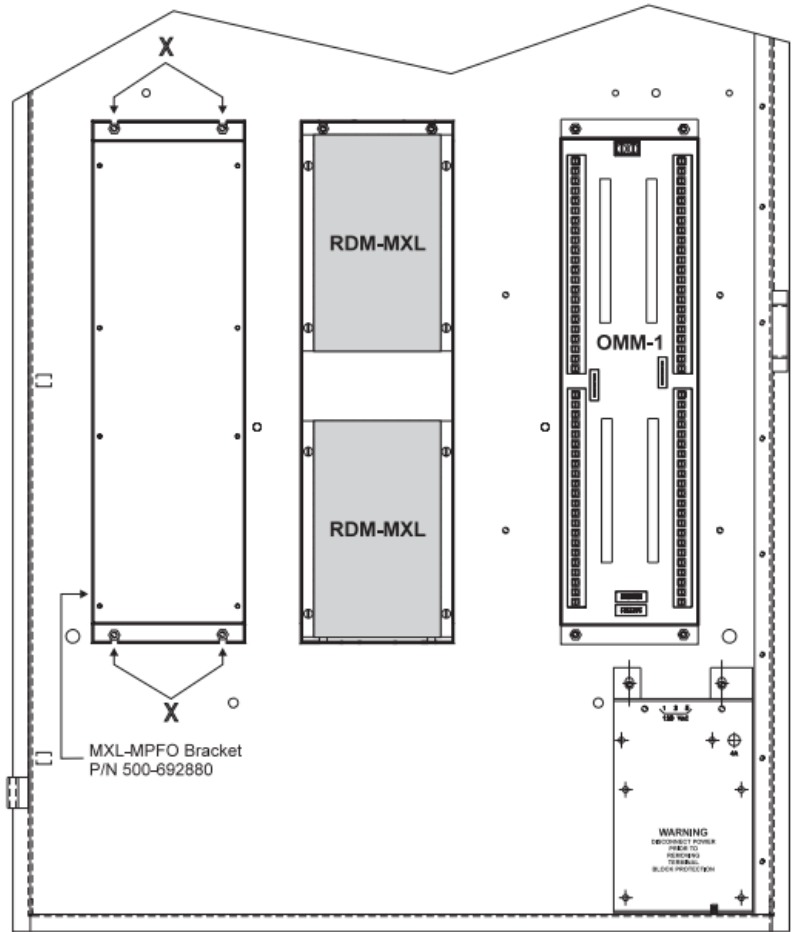
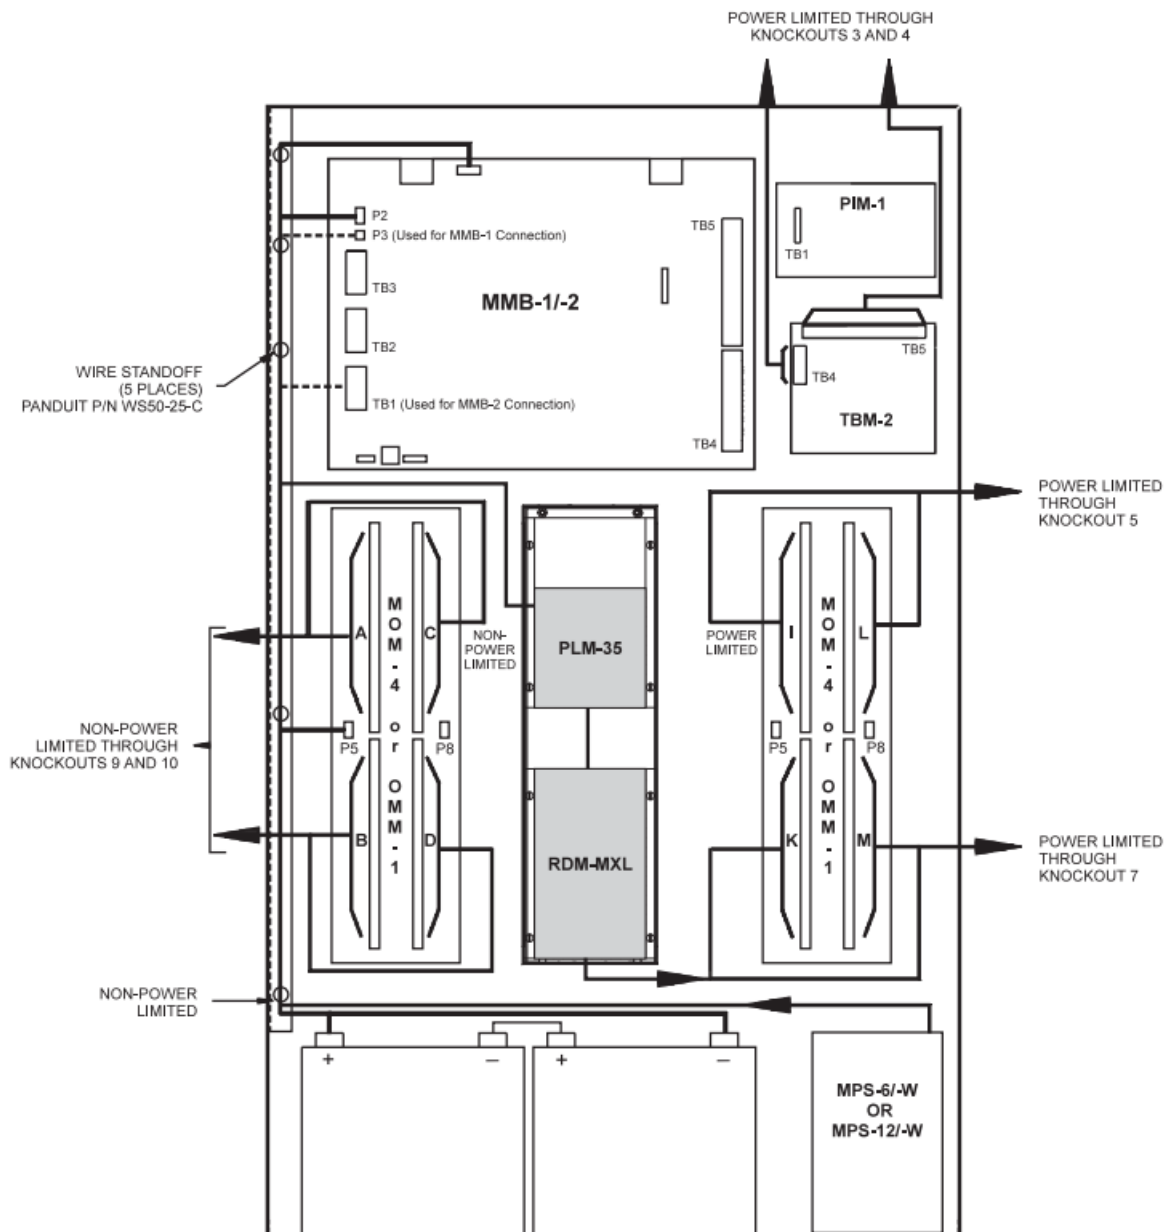

Figure 2
Figure 3
(Refer to Figures 2, 3, 4, and 5)
3. The RDM-MXL is designed to mount on the MXL-MPFO adapter plate for the MOM-4 position. This bracket has the same footprint as the MOM-4 and can accommodate 2 RMDMXL modules. An assembly kit is included with the bracket that contains four nuts and eight screws. Mount the bracket in the enclosure with four nuts at the positions labeled "X" in Figure 2. Refer to Figure 3 for wiring in the MXL/MXLV enclosure. The RDM-MXL can also mount to a SYS3-MPFO adaptor late for System 3 enclosure (EA-31, EA-32, EA-35) mounting.